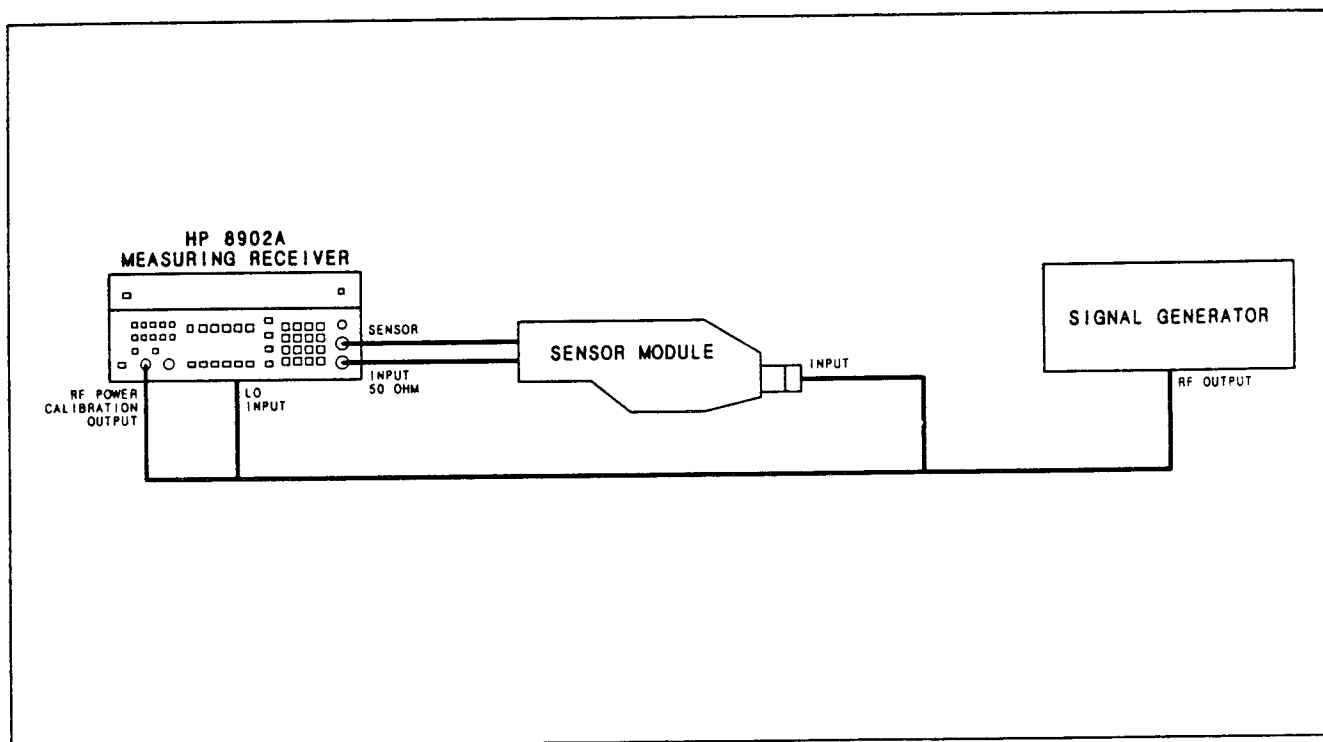

Figure 3-11. External Lo Check (Option 030) Setup
60. Set the signal generator to 51.50 MHz CW at 0 dBm. Connect the signal generator's output to the rear-panel LO INPUT connector. Connect the sensor module's input to CALIBRATION RF POWER OUTPUT connector. (See Figure 3-11.)